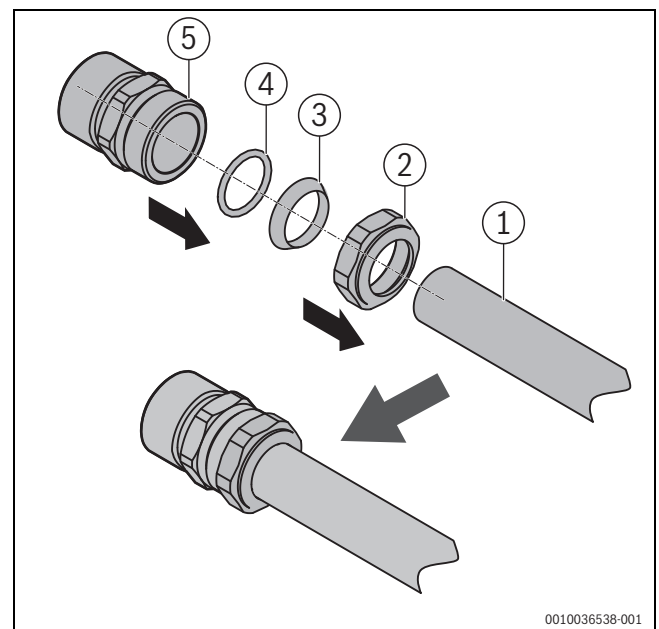

Fig. 6 Assembly of the clamping ring fitting
- ▶ **Mount connection sets** (accessory) on the pipe as shown in Fig. 6.